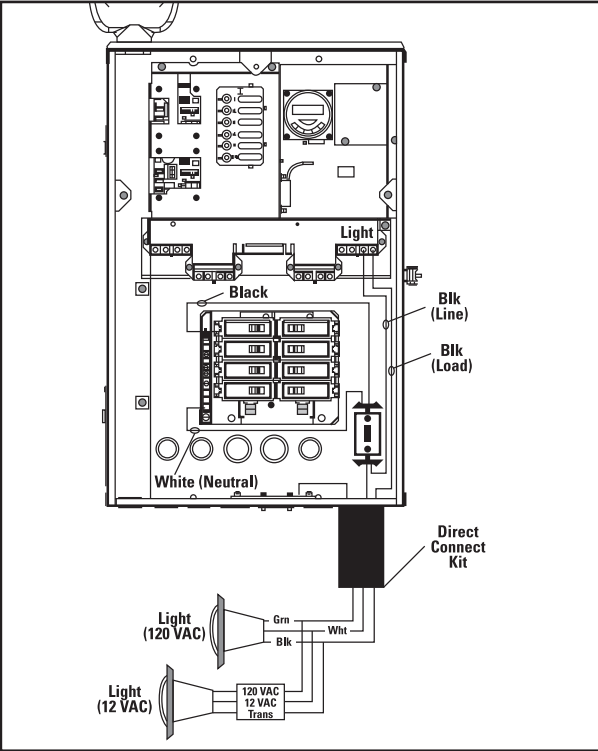

Figure 3-6
1. Install a GFCI receptacle and connect the neutral and hot wire, from the circuit breaker, to the LINE side of the GFCI. (See Figure 3-6.)
2. Connect the neutral (white) from the LOAD side of the GFCI to either the 120-Volt light (for a 120VAC light connection) or the primary of the transformer (for a 12VAC light connection). For a 12VAC light connection, finish by connecting the neutral wire from the secondary of the transformer to the 12VAC light. (See Figure 3-6.)
3. Connect the hot (black) as follows from the LOAD side of the GFCI to the line side of the appropriate relay. (See Figure 3-6.)